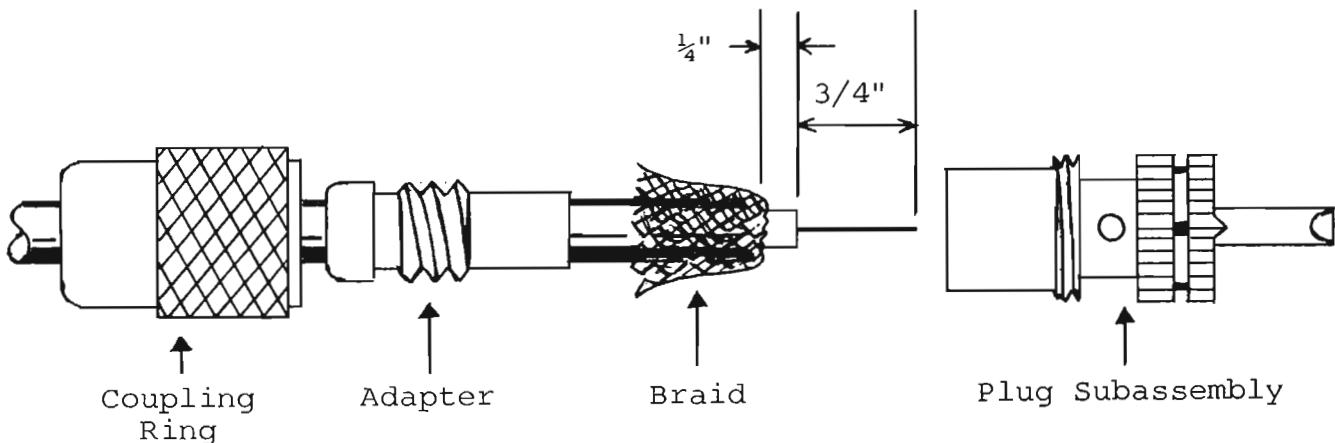

Figure 6-5. Sol-PC coaxial cable connector assembly.
- ( ) Step 26. Install male coaxial connector on free end of coaxial cable that is connected to Sol-PC (the composite video output cable). Install connector as follows (refer to Figure 6-5):